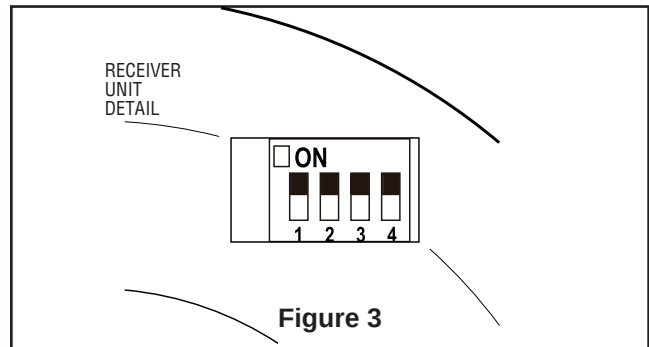

Figure 3
- ☐ 3. Position downrod support and align the clevis pin holes in both parts. Install the clevis pin and secure with the hairpin clip. Tighten the two set screws and locking nuts in the downrod support (Figure 3).
- ☐ 2. Carefully lift the fan and seat the downrod/hanger ball assembly on the hanger bracket that was just attached to the outlet box. Be sure the groove in the ball is lined up with tab on the hanger bracket (Figure 3).
- ☐ 2. To set the receiver unit code, slide code switches to the same positions as set on your transmitter (Figure 3).